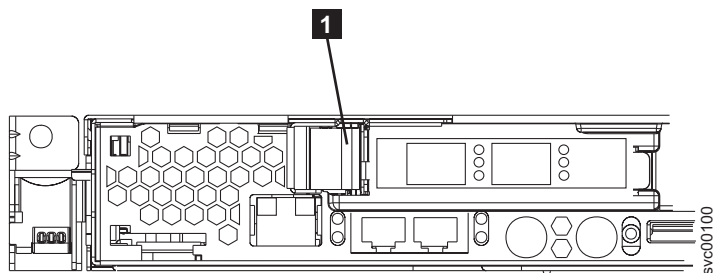

Figure 183. SAN Volume Controller 2145-8F2 or SAN Volume Controller 2145-8F4 PCI slot 1 card retainer
1. Install the Fibre Channel card in slot 1, which is shown in Figure 183.